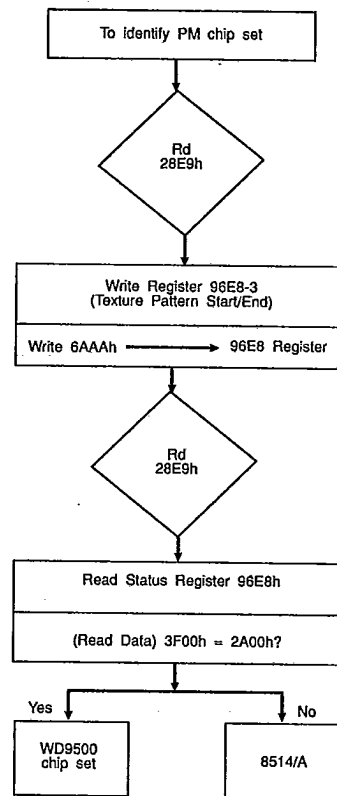

FIGURE 6-2. METHOD OF IDENTIFYING WD9500 CHIP SET
To identify the WD9500 chip set, see Figure 6-2. To escape to Western Digital Enhanced Mode, the AI should execute a byte read of I/O address 28E9h. (The purpose of the byte read is to perform the escape; the WD9500 does not return any data). This operation is a no-op for the IBM 8514/A since it involves a write-only register, which furthermore does not respond to any access to an odd-numbered byte address. This operation tags the next register access through a special bit in the FIFO. FIFO is fully functional in Western Digital Enhanced Mode. After escaping to Western Digital Enhanced Mode, the WD9500 automatically resets itself back to 8514/A emulation mode in one of these four circumstances:
3. If, at its next board access immediately after an escape, the AI writes to either I/O address 82E8 (register name in 8514/A Emulation Mode: Copy Y Destination/Incr 1 Register). Figure 6-2.